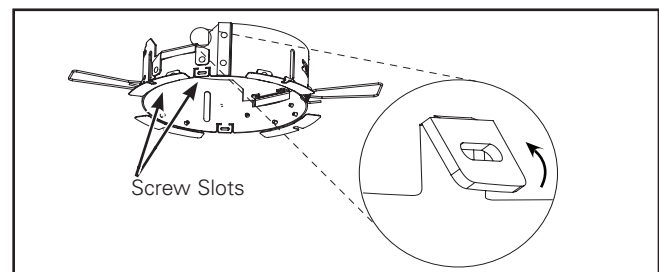

Figure 28.
4. To prevent movement of retrofit ring assembly in housing/ceiling opening use a flat head screw driver to pry out 3 centering tabs (Figure 28).